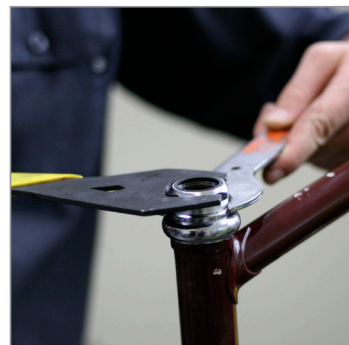

Figure 4
- Using a headset wrench, tighten the adjusting race until it makes contact with the bearings but still turns freely. Hold the adjusting race in place, and tighten the locknut (figure 4). If there is play in the headset, loosen the locknut and tighten the adjusting race further. If the headset does not turn freely, loosen the locknut, loosen the adjusting race and re-tighten the locknut